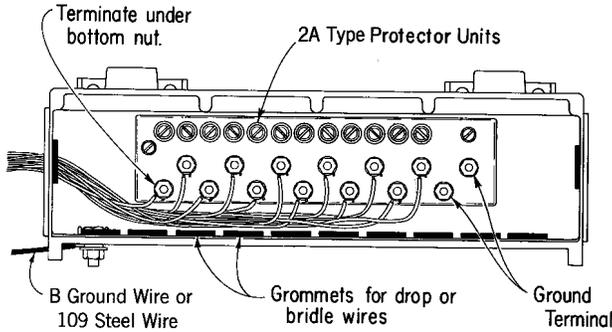

Fig. 3 - 116B Protector (cover omitted for clarity)
**2.03** The internal wiring for a 116B Protector and a 104A Wire Terminal is shown in Figs. 3 and 4, respectively.